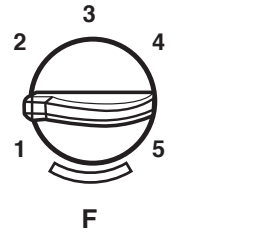

Fig.21
- The Range sensitivity adjustment "R" [Fig.21] can also be used to compensate for the changes in outside air temperature in winter and summer